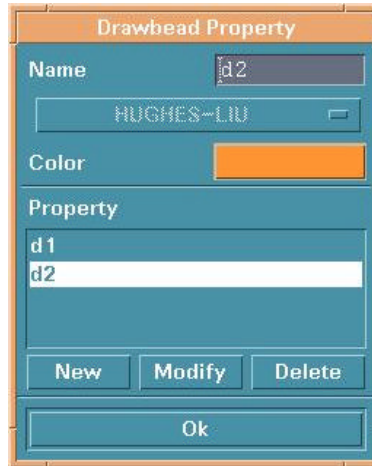

Figure 5.3.1 Draw Bead Property
Select EDIT DRAW BEAD PROPERTY and the DRAW BEAD PROPERTY dialog window is displayed, see Figure 5.3.1. The functions of the buttons in this window are similar to those in the MATERIAL and PROPERTY sections (Sections 5.6, 5.7). The table DRAW BEAD PROPERTY is shown in Figure 5.3.2.
- Select a property from the DRAW BEAD PROPERTY window, see Figure 5.3.1.